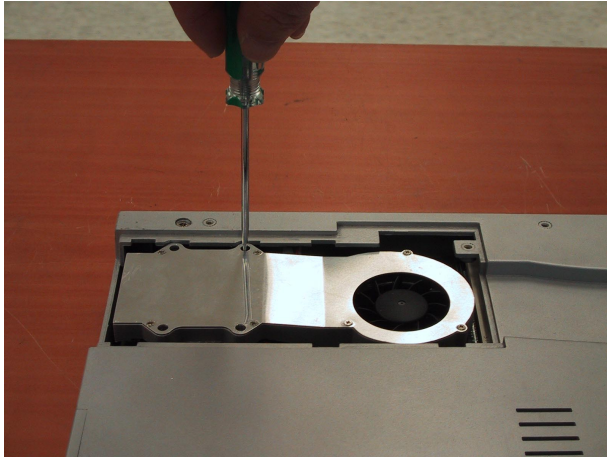

Figure 3-10: Installing the heat sink
10. Finally, put the heatsink with the fan back and tighten the four screws as shown in Figure 3-10, then put back and fix the plastic cover.